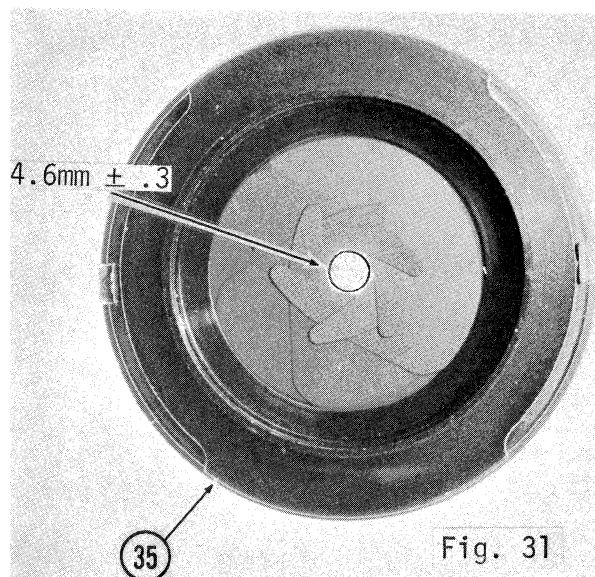

Fig. 31
- 5.1.2.14 Slide F/Stop Ring onto Lens Mount Assembly so that red indicator dot aligns with center of "EE" position. Hold the ring against the detent spring pressure, then tighten three setscrews (X) to secure the ring. Check operation of F/Stop Ring at all detent positions; adjust as necessary. (Fig. 31)